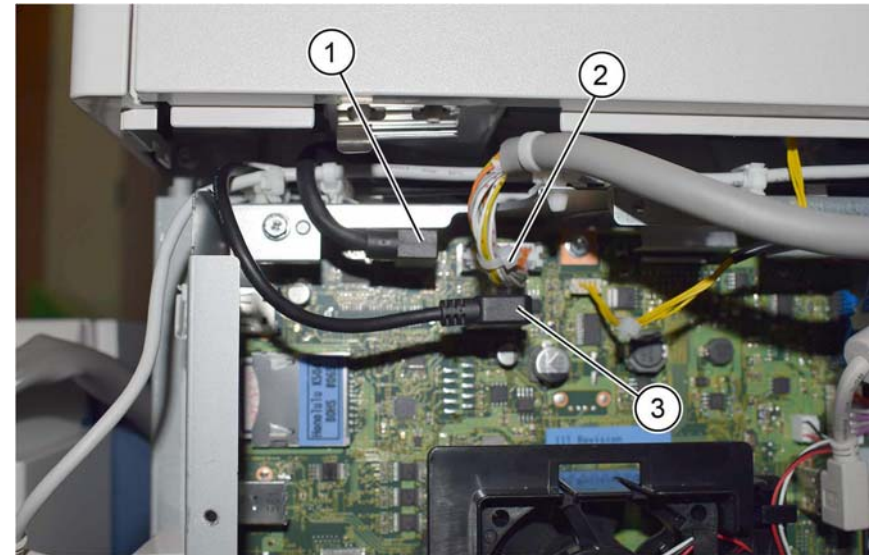

Figure 6 Cables
7. Disconnect the USB, DADF I/F and UI cables, Figure 6:
- a. Disconnect the USB cable (1).
- b. Disconnect the DADF I/F cable. (2).
- c. Disconnect the UI cable (3).